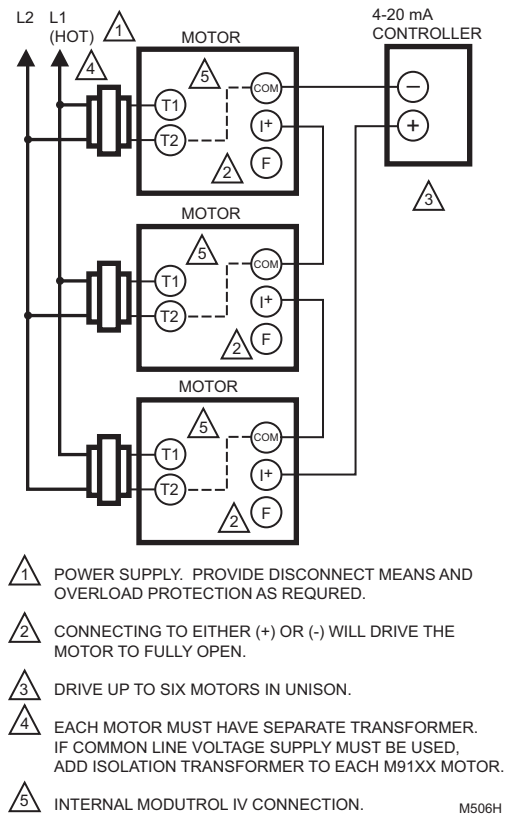

Fig. 6. Typical wiring diagram for Q7230A Interface Module and M91XXX Modutrol IV Motor with 4-20 mA controller.
3. See Fig. 6 and 7 for typical system wiring.